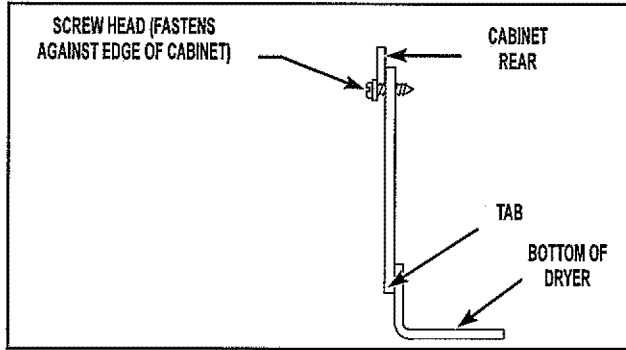

FIGURE 10
- Use screw included with kit to secure plate in position by driving the retaining screw into the plate's smaller hole to lock the plate in position. See *Figure 10*.